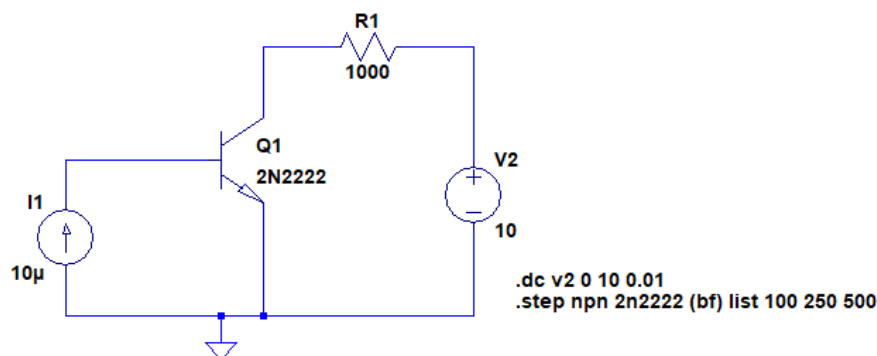

Fig. 11. Determining the output characteristics for different values of the current gain β .
5. Show the output characteristics of the transistor $I_c = f(U_{CE})$ for the specified values of the current gain of the transistor β . Set the values of the bf parameter in the transistor model to 100, 250 and 500. Prepare the simulation circuit according to Figure 11.